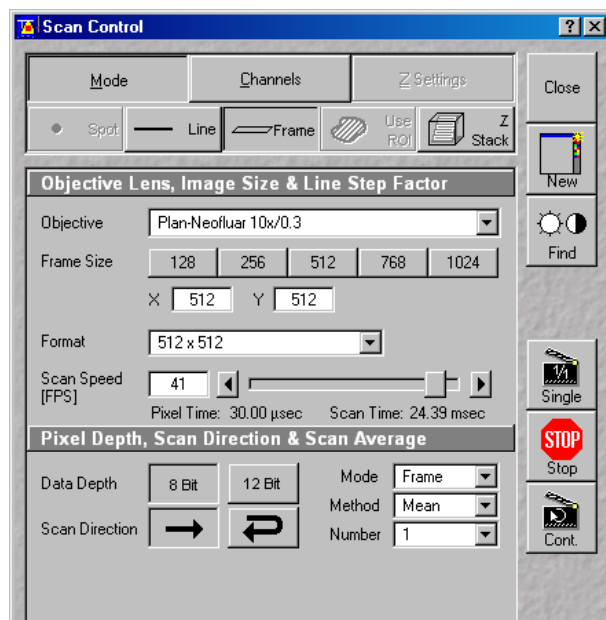

Fig. 15 Scan Control window, Mode settings
The **Scan Control** window appears (Fig. 15).
- Use the **Exposure Time** slider in the **Objective Lens, Image Size & Line Step Factor** panel (Fig. 15) to adjust the exposure time.
- Select the dynamic range 8 or 12 Bit (per pixel) in the **Pixel Depth, Scan Direction & Scan Average** panel (Fig. 15).